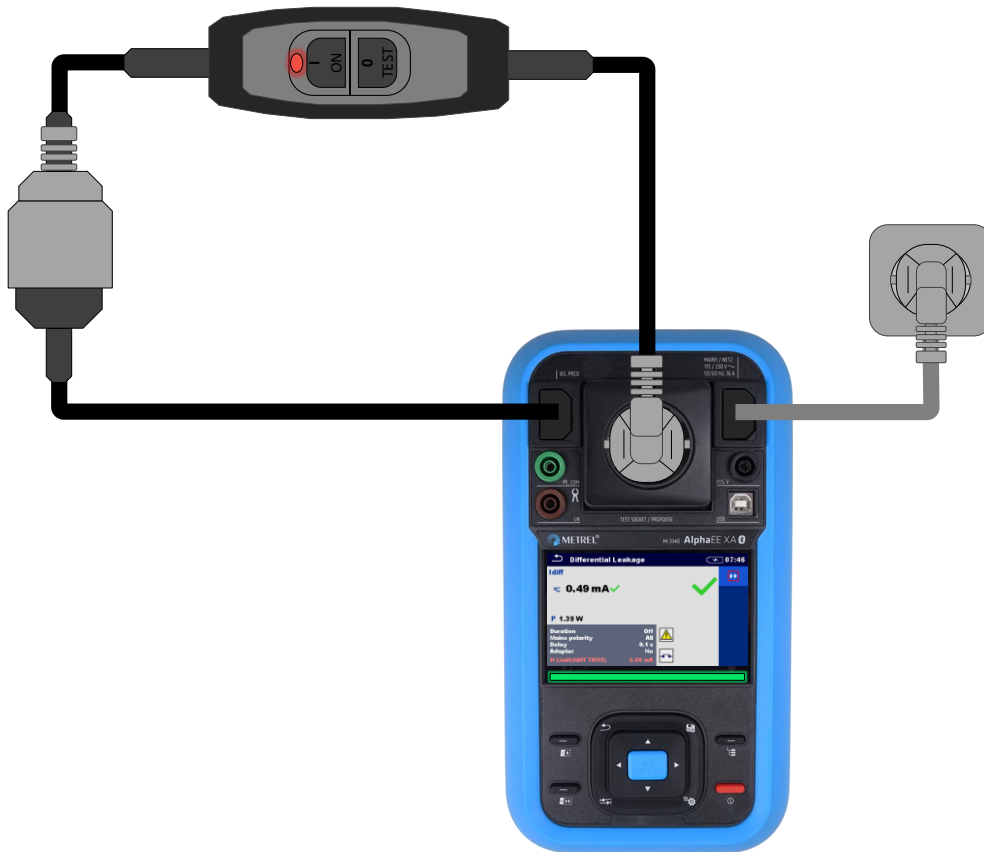

Figure 143_PE leakage current Class I
- Connect the DUT according to the connection diagram Figure 143_PE leakage current Class I,